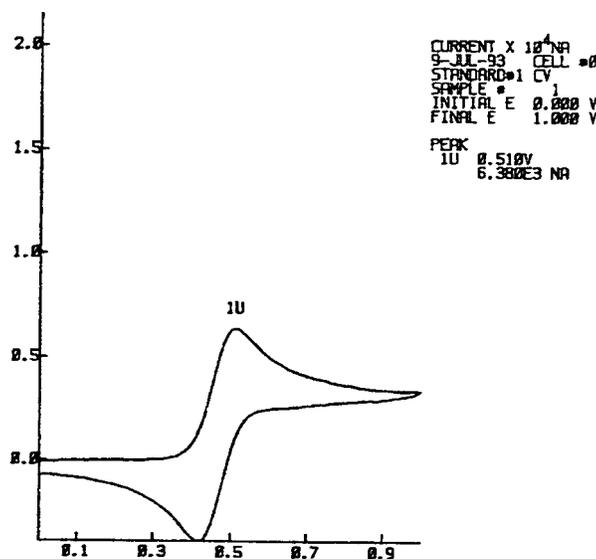

Figure 3. PLAYBACK OF STANDARD
6. Press **PLAYBACK**. The data acquired during the preceding **run** will be played back, rescaled and complete with labeled axes. The peak representing Ferrocene should be clearly **visible** and the peak potential and current listed. Although the actual values may vary somewhat, by and large, the playback curve produced should be similar to that shown in Figure 3.